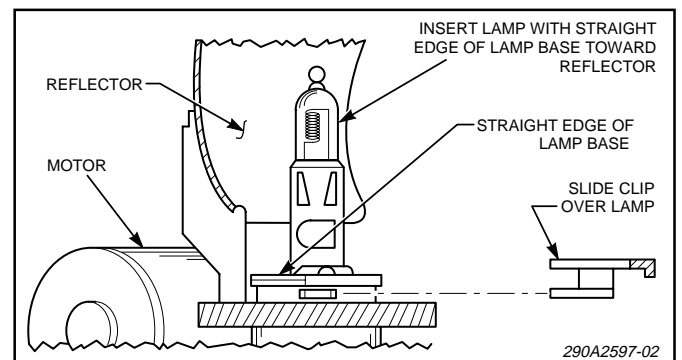

Figure 5.
b. See figure 5. Note the lamp's orientation and replace the lamp (Federal Part No. 8440A265) with the straight edge of the lamp's base toward the reflector.